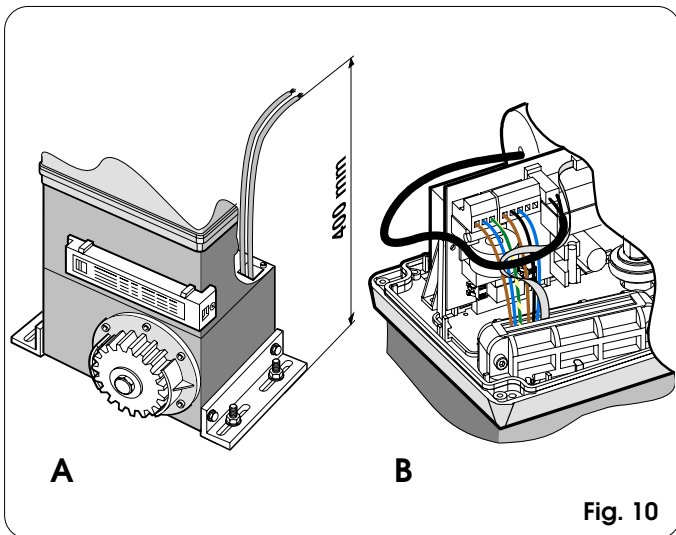

Fig. 10
- During this operation, route the cables through the duct inside the lower half-casing of the operator (Fig.10 - Ref. A). To access the electronic equipment, route the cables through the appropriate hole, using the supplied rubber cable-gland. Make absolutely sure to unsheath all the cables so that the gland holds single cables only (Fig.10 - Ref. B).